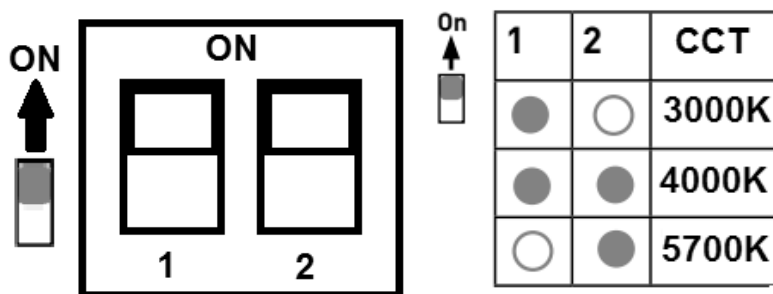

Fig. 4
- Choose the required colour temperature by means of the DIP switch (see Fig. 4)